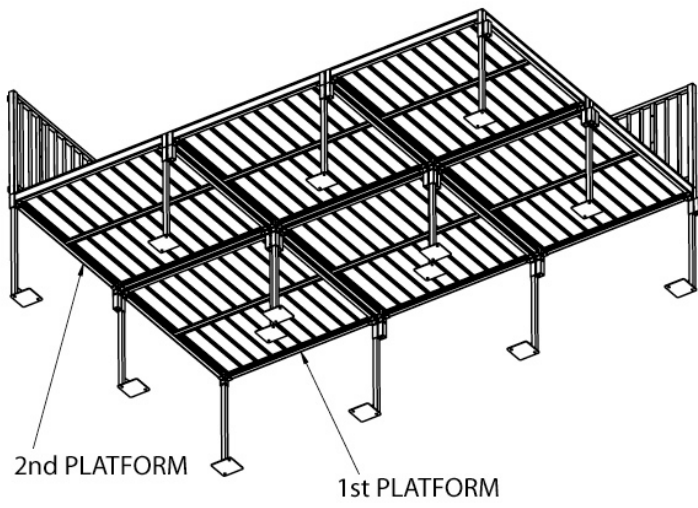

FIG. 11
- 1.7.8.4 Regardless of connector orientation, make sure there is a minimum of two legs installed in each platform's corner pockets (FIG. 11).